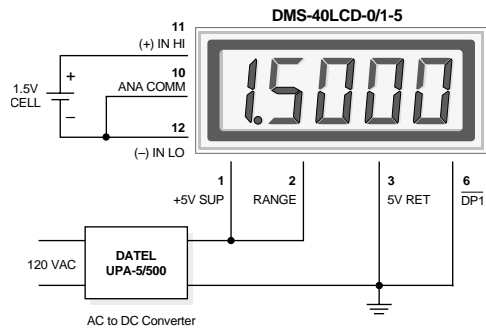
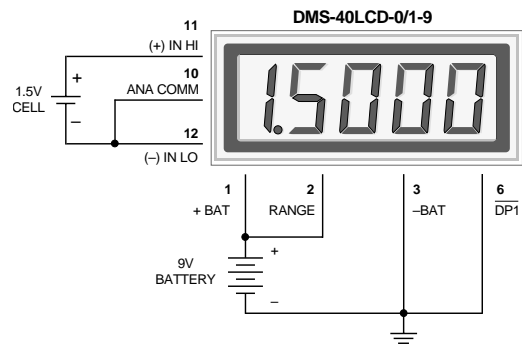

Figure 5. Floating Input Measurements (5V-Powered Models)
Figure 6. Floating Input Measurements (9V-Powered Models)
**4. Floating Signal Source Measurements:** Floating signals can be measured using the circuits shown in Figures 5 and 6. Figure 5 uses a 5V-powered meter. Figure 6 uses a 9V-powered meter. Both figures show a DMS-40LCD-0/1 with pin 2 tied to pin 1 yielding a ±2V input range. Connecting pin 10 (ANALOG COMMON) to (-) INPUT LO (pin 12) provides the reference point for the meter's input.